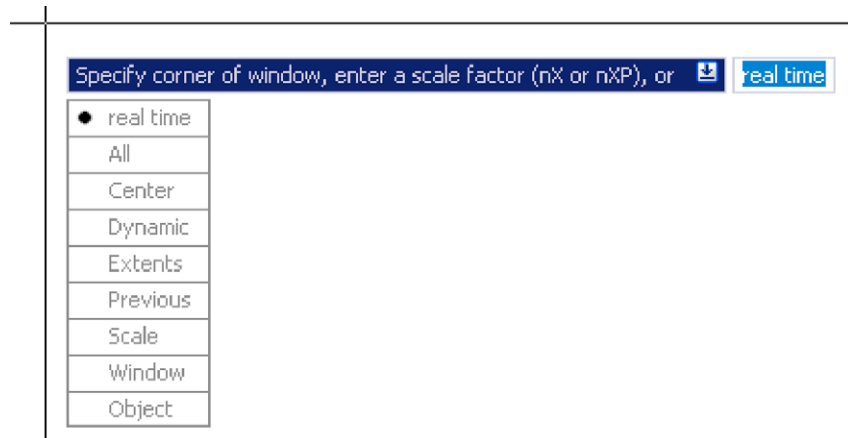

Fig. 3.34 Dynamic Input – second example – Zoom – the popup menu appearing with a *right-click* and pressing the **down** keyboard button
2. *Right-click* and press the down button of the keyboard. The popup list (Fig. 3.34) appears from which a **Zoom** prompt can be selected.